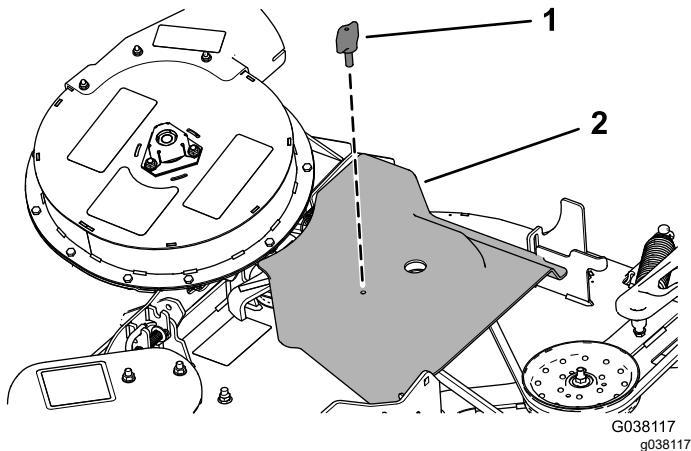

Figure 7
1. Remove the thumbscrew that secures the belt cover (Figure 7).
2. Move the cover outward until the edge of the cover clears the hooks in the deck flanges (Figure 7).